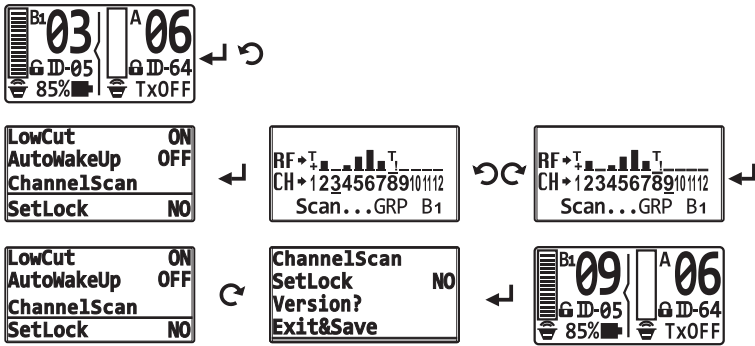

Fig. 26
8. Setting Channel Scan, see Fig. 26: